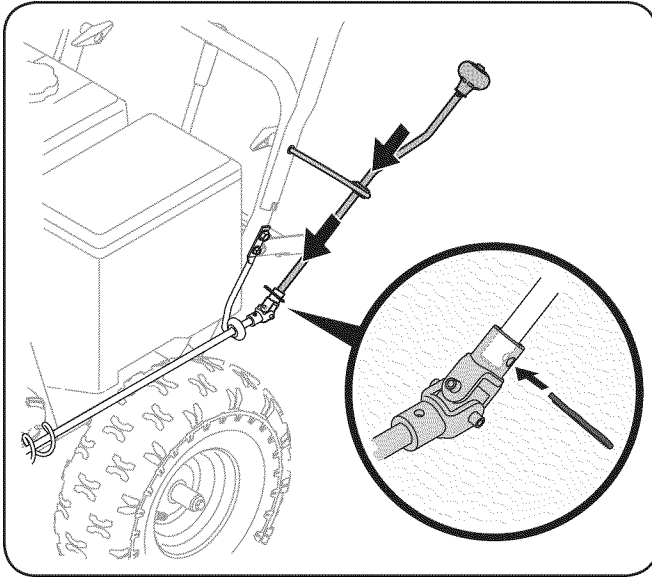

Figure 3-4
1. Insert the unattached chute control rod into the eye bolt on the left side of the handle assembly. See Fig. 3-4.
2. Line up the holes in the end of the unattached chute control rod with the holes in the attached chute control rod. Insert the cotter pin. See Fig. 3-4.